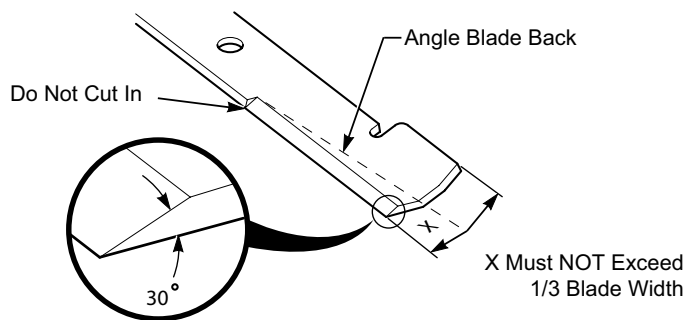

Figure 7-11. Cutter Blade Sharpening
Do not sharpen blades beyond 1/3 of the original width of the blade. See Figure 7-11.
1. Sharpen the cutting edge at the same bevel as the original edge. Sharpen only the top of the cutting edge to maintain sharpness. See Figure 7-11.